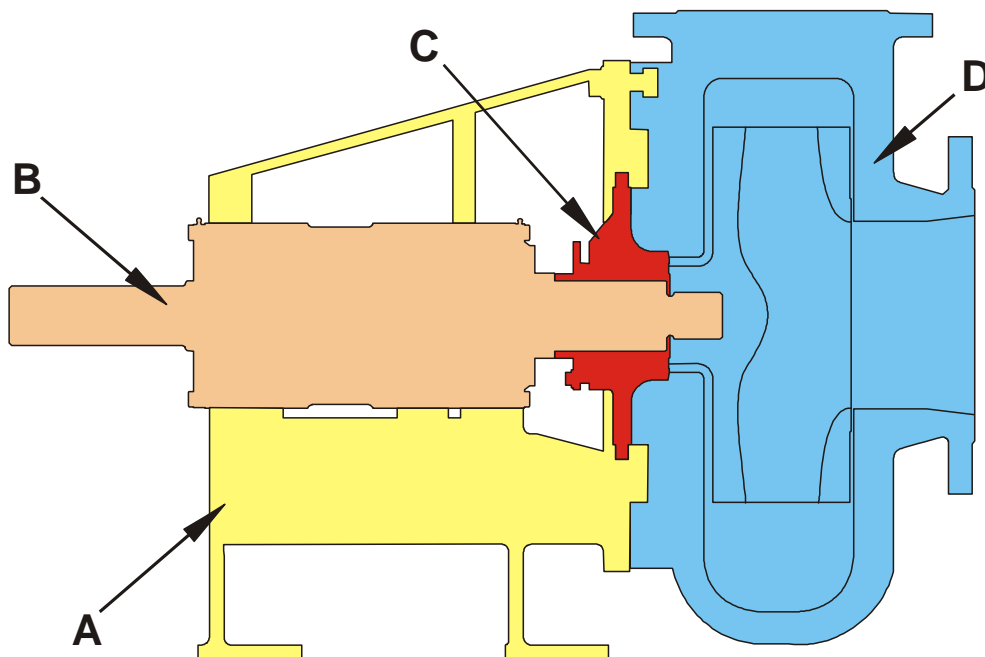

Figure 2.3.1-1 Typical outline design of Metso Minerals Slurry Pumps showing the basic pump modules: Frame (A), Bearing cylinder(B), Shaft seal(C), Wet-end (D)
Slurry Pumps are made up of four basic modules, the frame (A), the bearing cylinder (B), the shaft seal (C) and the wet-end (D) assemblies – see Figure 2.3.1-1.